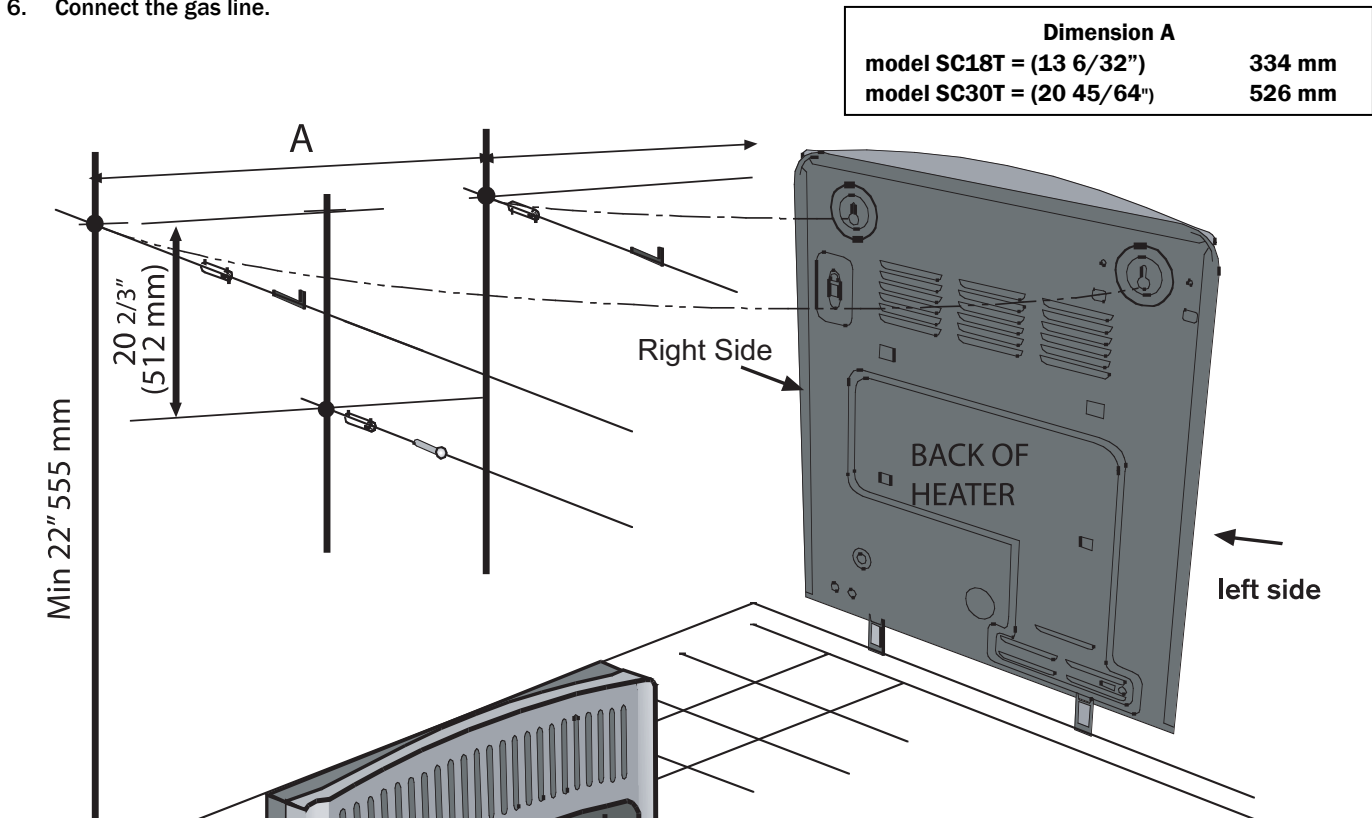

Figure 2-1
1. Select the elbow position as indicated in Figure 2-1.
2. Drill two (2) 5/16" holes according to the dimensions shown on the upper corner of Figure 2-1.
4. Screw in the three (3) plastic expansion anchors furnished with the unit, as shown in Figure 2-1.
5. Screw in the furnished screws through the anchors as shown in Figure 2-1.